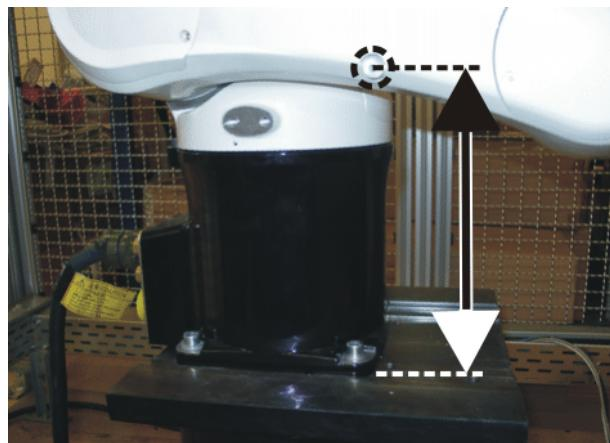

Fig. 10-27: Pre-mastering position A2
- Move A2 into the following position: the distance (measured vertically) between the center of the screw and the lower edge of the base must be **270 mm** (**>>>** Fig. 10-27).